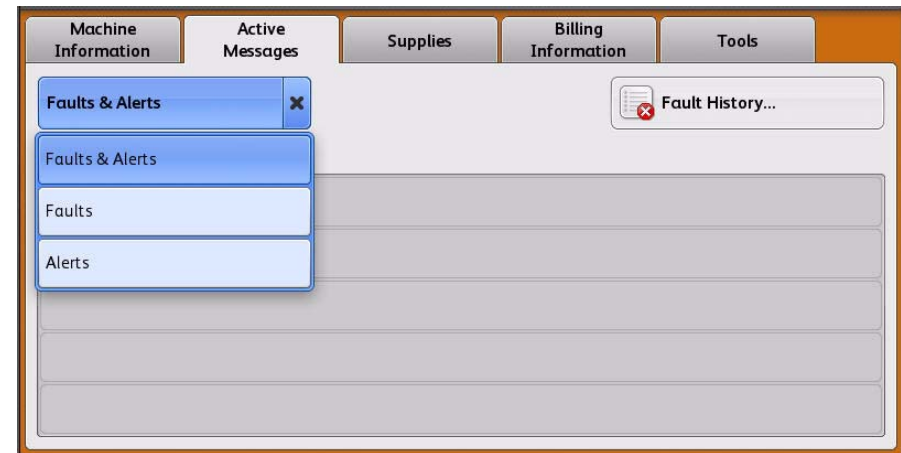

Figure 2 Access and Filter Fault Details
2. Touch the Active Messages tab shown in Figure 2.